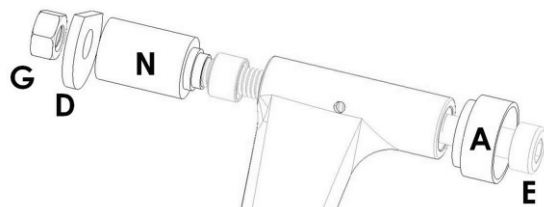

Fig. 10
6. To press fresh DU Bushings into the Equilink, orient the tools as seen in Fig. 10. The EQ DU Press (N) should center itself inside the DU Bushing. Tighten the bolt until the Flange on the EQ DU Press touches the Equilink. The tool is designed to set the DU Bushings to the correct depth inside the Equilink. Repeat for all 4 Equilink DU Bushings